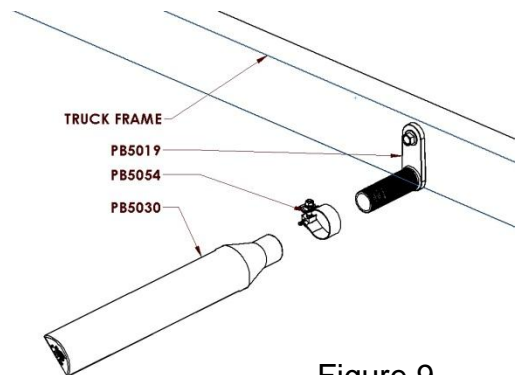

Figure 9
- A. Bolt the remaining PB5019 swivel brackets to the truck frame as shown in Figure 9 and tighten the nut so the brackets suit the desired position of the fender. **Recommended torque for the 5/8" X 4-1/2" bolts is 160-170 ft-lbs.**